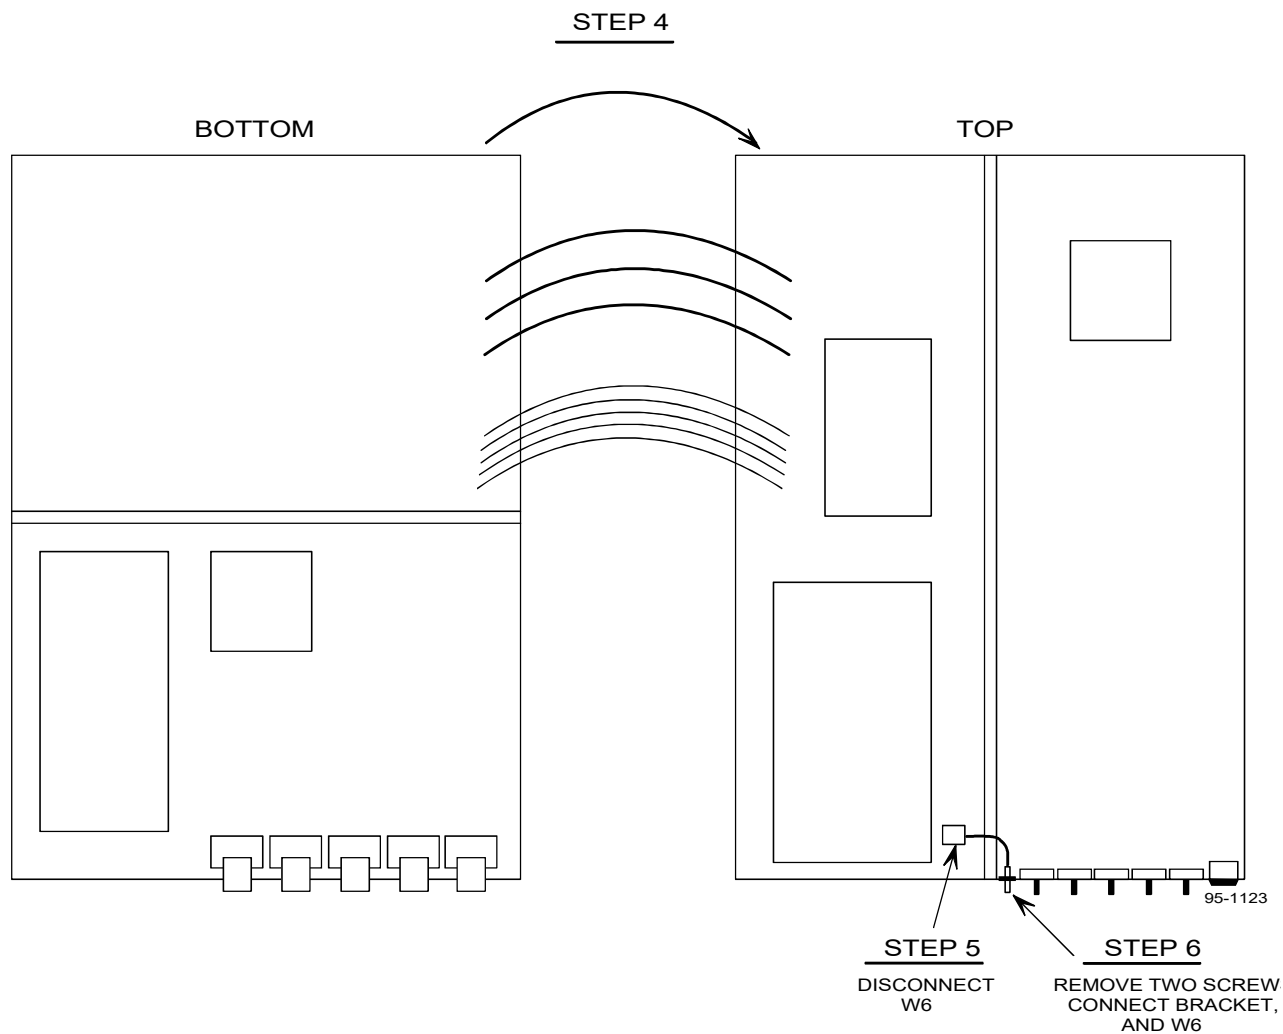

Figure L-2. Opening the Miniceptor and Removing W6
4. Carefully lift the top half of the unit from the bottom half and spread open clockwise, similar to opening a book (see **Figure L-2**).
5. Referring to **Figure L-2**, disconnect cable W6 from the RF Converter module (at J1).